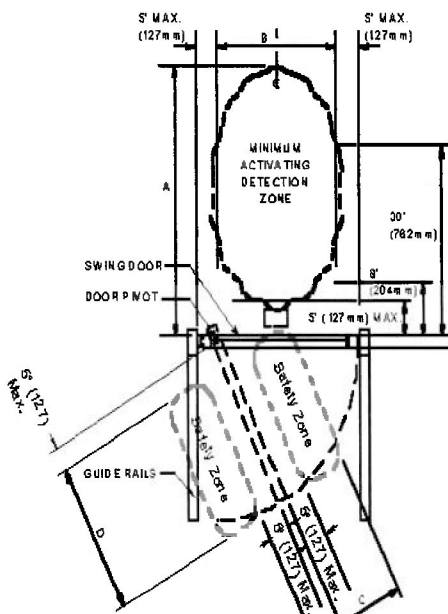

Figure 2
- If the door is equipped with a door-mounted presence sensor, the door may start to open but should reverse, stop, or slow down. (See Figure 2).